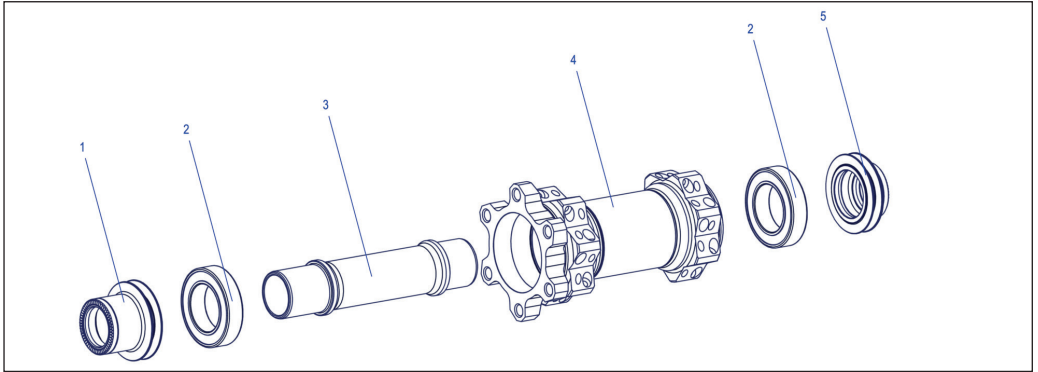

figure 1: front wheel hub
1. Clamp one of the adapters (figure 1/5) into a vice.
1. Slide the disassembly tool onto the axle (figure 1/3).
2. Tap the bearing (figure 1/2) out of the hub shell using the disassembly tool and a hammer.
6. Tap out the second bearing (figure 1/2) using the disassembly tool and a hammer.
3. Put the axle (figure 1/3) onto the installation cylinder.
5. Slightly grease the bearing (figure 1/2) and put it onto the disc side with the colored side facing outwards.
10. Slightly grease the bearing (figure 1/2) and put it with its colored side facing outwards onto the non-disc side.
1. Grease the bearings and the inner surface of both adapters (figure 1/1, 5).
2. Put both adapters (figure 1/1, 5) onto the hub by hand.